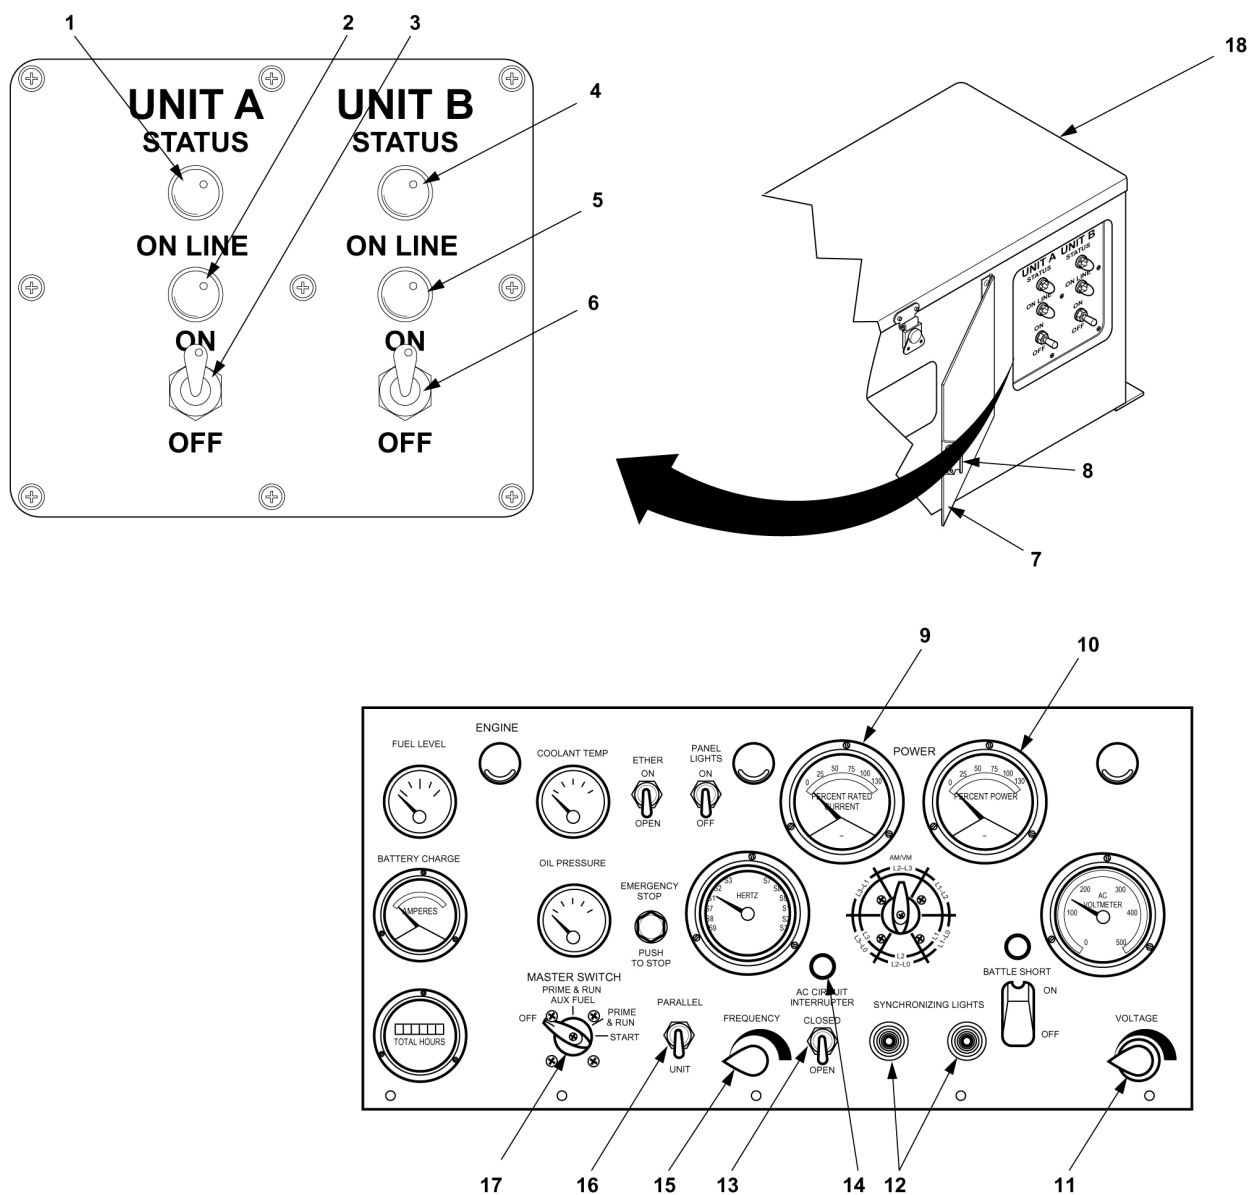

Figure 2-8. Power Plant Operation.
- b. Release the clamping catch (8, figure 2-8) and open the control panel access cover (7).
- c. To start the generator set, rotate the MASTER switch (17) to START position, until oil pressure reaches 25 psi and voltage reaches the appropriate required value.
- d. Release MASTER switch (17) to PRIME & RUN position.
- e. If external fuel system is being used, place MASTER switch (17) to PRIME & RUN AUX fuel position.
- f. Readjust VOLTAGE potentiometer (11) to required voltage.
- g. Readjust FREQUENCY potentiometer (15) to required frequency.
- h. Place AC CIRCUIT INTERRUPTER switch (13) in the closed position.
- i. Check switch box (18) to make sure Status light (1 or 4) is lit for the generator set just started.
- j. At the switch box (18), set the ON/OFF switch (3 or 6) to the ON position (ON LINE light should light). Generator is now supplying power to the load.
- l. On the Power Plant switch box (18), place the ON LINE switch (3 or 6) for the operating generator set in the OFF position.
- d. On operating generator set (generator Set 1) position UNIT-PARALLEL switch (16, figure 2-8) to PARALLEL position.
- f. At switch box (18), set generator Set 2 ON-OFF switch (3 or 6) to ON (switch box STATUS & ON-LINE lights for both generators should be lit).
- a. At the switch box (18, figure 2-8) for the set being taken off line, turn switch (3 or 6) to the off position.
- b. Set UNIT-PARALLEL switch (16) to UNIT on the remaining operating set.
- c. At the control panel of the generator set to be taken off line, position AC CIRCUIT INTERRUPTER switch (13) to the OPEN position until indicator (14) goes out. At switch box (18), STATUS and ON LINE lights for the generator shut down should be off.
- d. On the set being shut down, rotate MASTER switch (17) to OFF position.
- e. At the control panel of the shut down generator set, place the UNIT-PARALLEL switch (16) to UNIT.